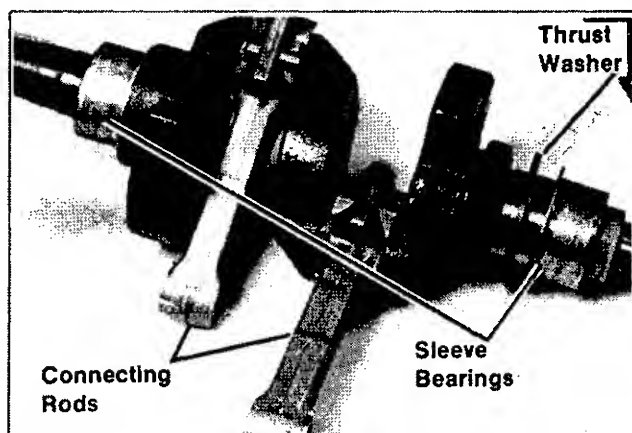

Figure 8-6. Crankshaft Components Assembled (Sleeve Bearings Shown)
1. Slide thrust washer onto P.T.O. end of shaft (chamfer toward crankshaft). Lubricate bearing journals on crankshaft and assemble bearings (sleeve or ball) on either end (see Figure 8-6). NOTE: Engines with ball bearings do not use a thrust washer.